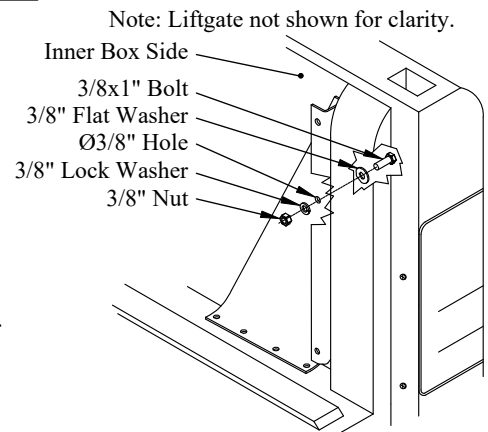

Figure 10: Additional support location.
1. **Locate** the existing 3/8" hole in the mounting bracket (Figure 10).
- (1) 3/8" lock washer and (1) 3/8" nut on the bracket-side (Figure 10).
- (1) 3/8"x1" hex head bolt and (1) 3/8" flat washer on the truck-side (Figure 10).